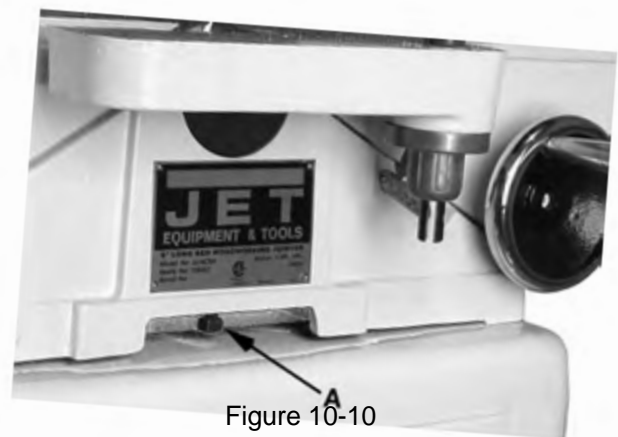

Figure 10-10
6. Using an 8mm hex wrench, loosen two hex cap screws underneath fence base casting (E) that secure the casting to the table (F). Remove the fence base casting and set aside.
7. Remove four screws and washers (A) securing the belt guard (B). Remove the belt guard.
8. Remove the V-belt (C) from the cutterhead pulley (D). If necessary, loosen the motor mounting screws with a 12mm wrench to provide slack on the V-belt.
9. Using a 3mm hex wrench, loosen two set screws that secure the cutterhead pulley (D) to the cutterhead shaft. Set the pulley and shaft key aside.
10. Using a 14mm wrench, remove two screws (A, Fig. 10-10) and lock washers that secure the cutterhead bearing housings to the base.